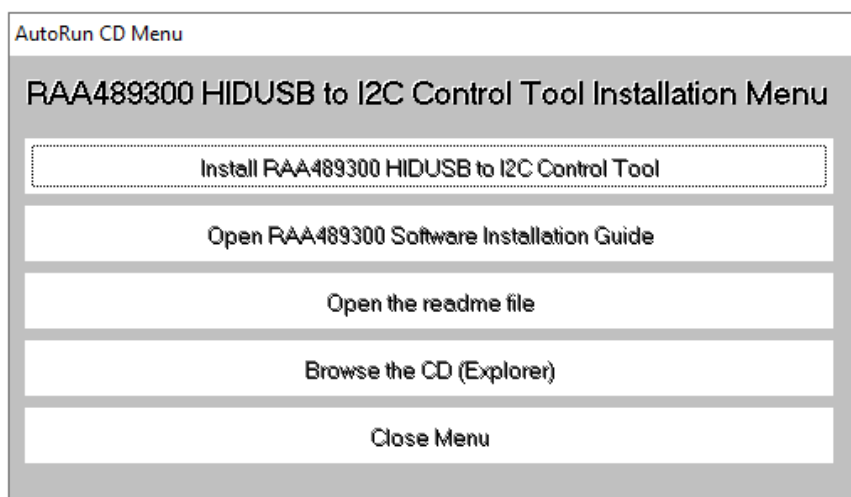

Figure 4. Installation Menu
2. Run **AutoRun.exe**. An installation menu appears (see Figure 4).